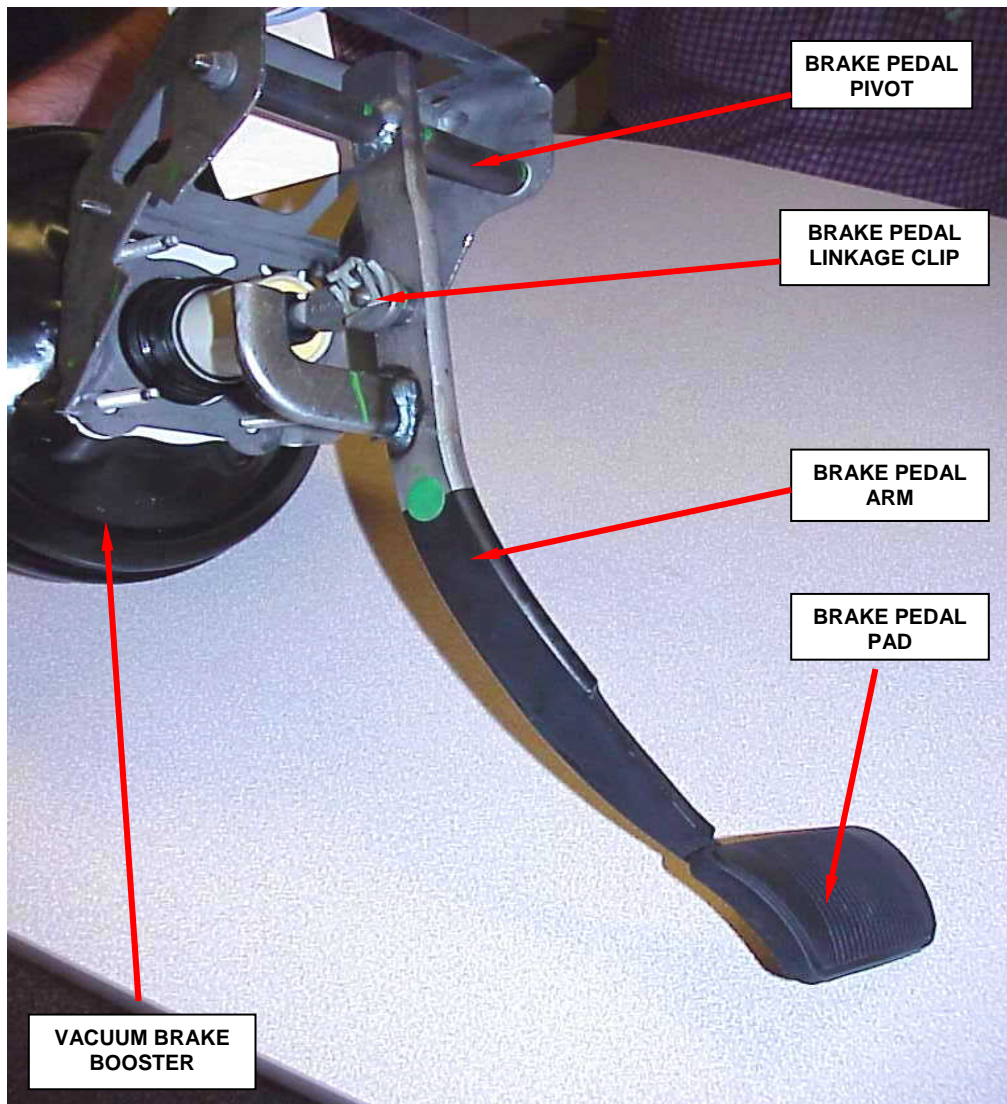

Figure 2 – Replace Brake Pedal Linkage Clip
3. Remove and discard the original brake pedal linkage clip (Figure 2).
4. Install a new brake pedal linkage clip (Figure 2).